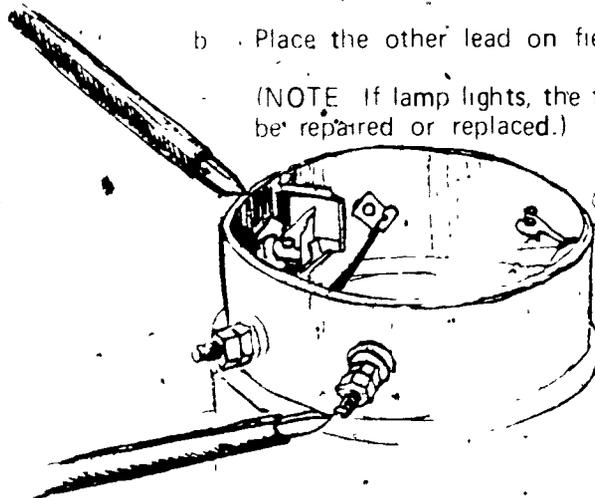

FIGURE 9
10. Test field coil for ground ("A" circuit only) (Figure 9)